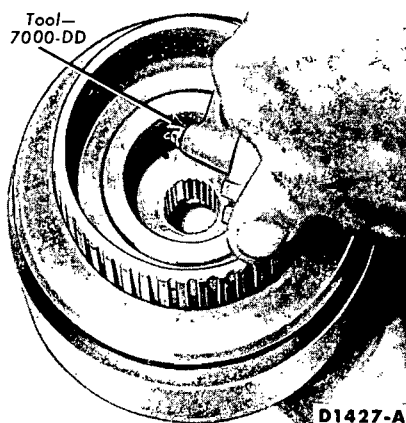

FIG. 90—Removing Forward Clutch Piston
4. Apply air pressure at the clutch piston pressure hole (Fig. 90), to